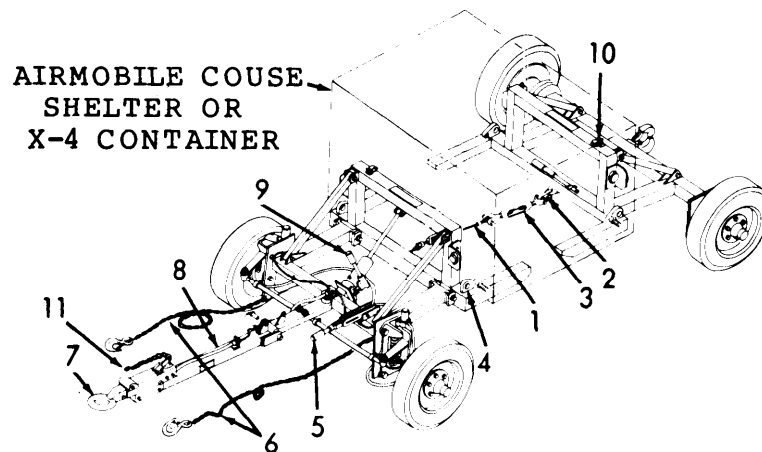

Figure 2-1. Controls and Indicators.
2-2. CONTROLS AND INDICATORS. (Refer to Figure 2-1).
- a. Safety cable (1) Figure 2-1 attaches to Shackles (2) on transporter assetilies and is tightened by adjusting both turnbuckles (3) .
- b. Eye brackets (4) hold Airmobile Couse Shelter in place using bolt and lanyard assembly on Airmobile Couse Shelter.
- c. Parking brake lever (5) controls brakes on front transporter.
- d. Safety chains (6) attach to towing vehicle.
- e. Lunette eye (7) on towbar (8) attaches to pintle hook of towing vehicle.
- f. Hydraulic jack handles (9) are used to pump jacks to raise shelter to travel configuration.
- g. Clamps (10) on frame are used to stow the hardware used to connect the front and rear frames together when not carrying a payload.
- h. Brake safety chain (11) is attached to towing vehicle.